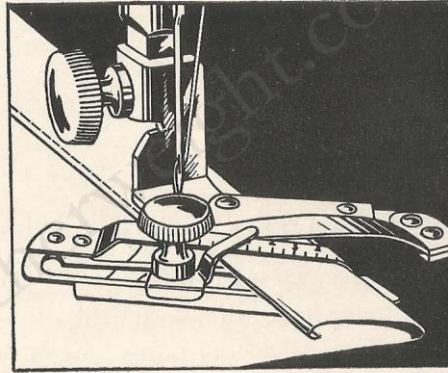

Fig. 41. Showing How Adjustable Hemmer is Used for Making Hems Up to 15/16 Inch Wide
4. Place cloth in hemmer and draw it back and forth until hem is formed, as shown in Fig. 41.